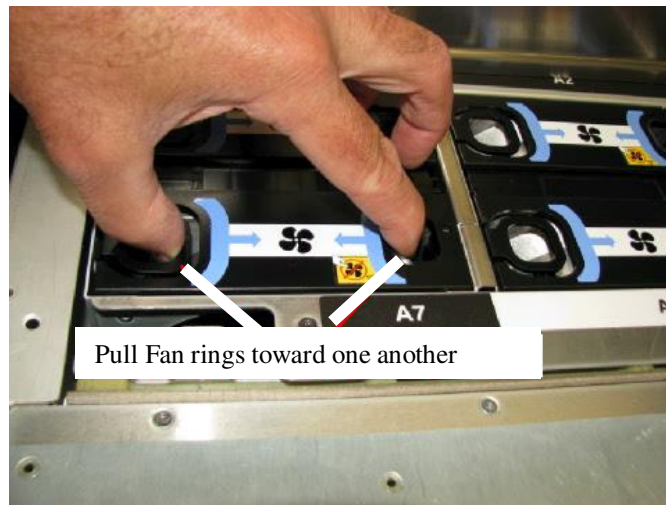
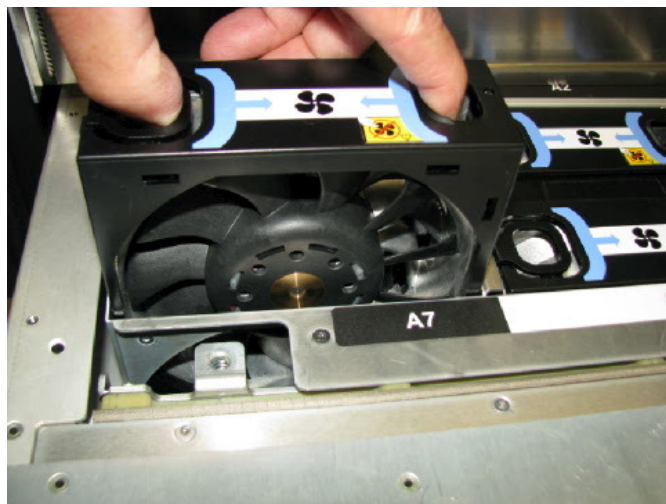

Figure 36 Fan removal rings
Figure 37 Lift fan out of disk enclosure
- STEP 33 Remove the fans by pulling the retention rings toward each other and lifting the fan out of the DE (see Figure 36 and Figure 37).
- STEP 42 Remove the Cam Followers by pulling the locating pin out of the frame and lifting the Cam Follower (see figure 36). Return the Cam Followers to the original storage location at the lowest position of the frame near EIA 5. Screw the shipping screws back into the cam followers.